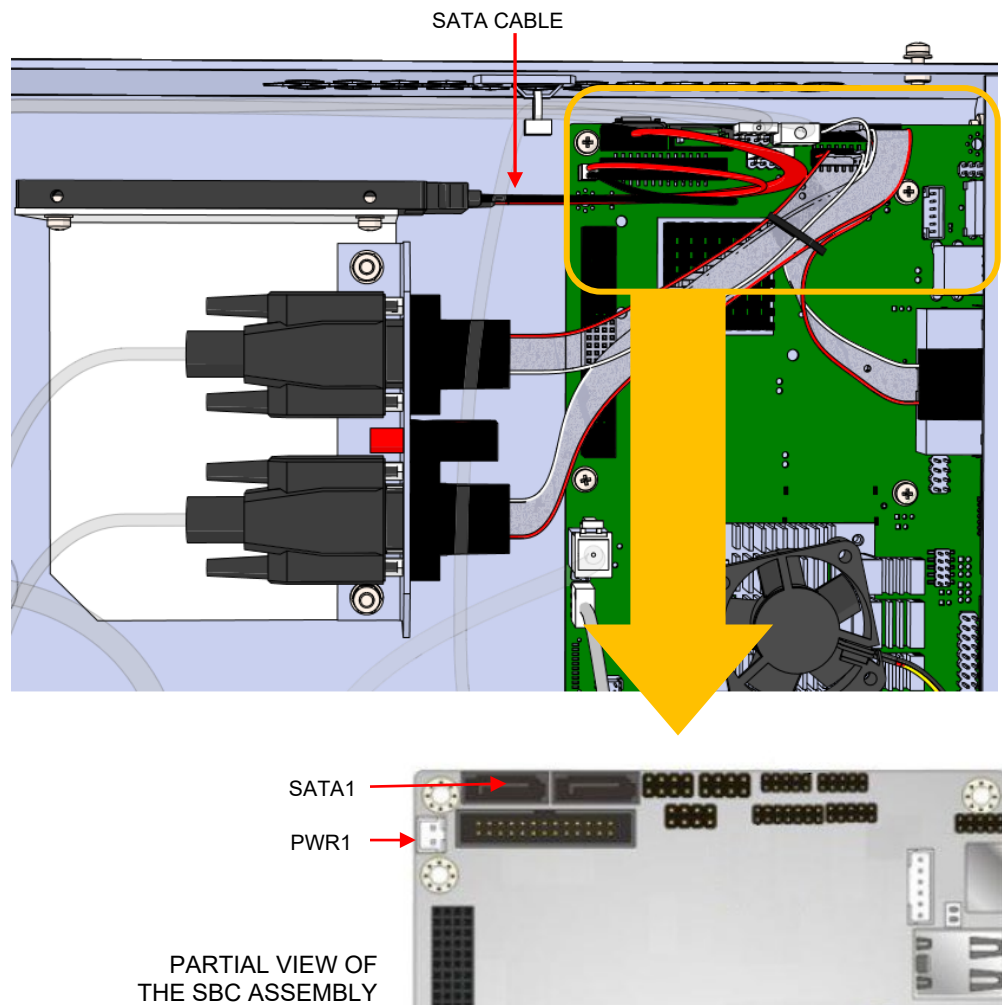

Figure 11: Connecting the SATA Cable
- (h) Connect the SATA cable between the SSD and the single-board computer (SBC) assembly as follows (see Figure 11):